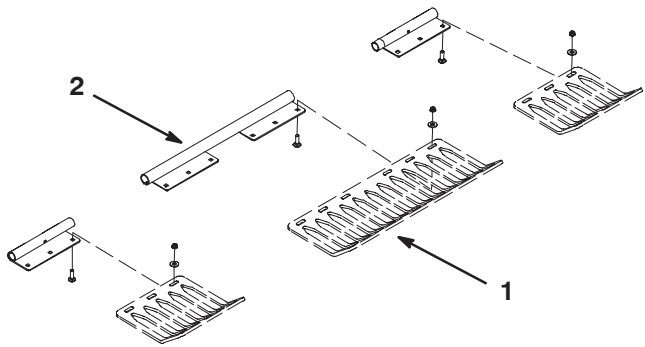

Figure 24
3. Loosely install the turf guards to the turf guard brackets with (12) carriage bolts, flat washers and flange nuts (Fig. 24). Do not tighten the fasteners. Carriage bolt heads to be positioned under turf guard brackets.